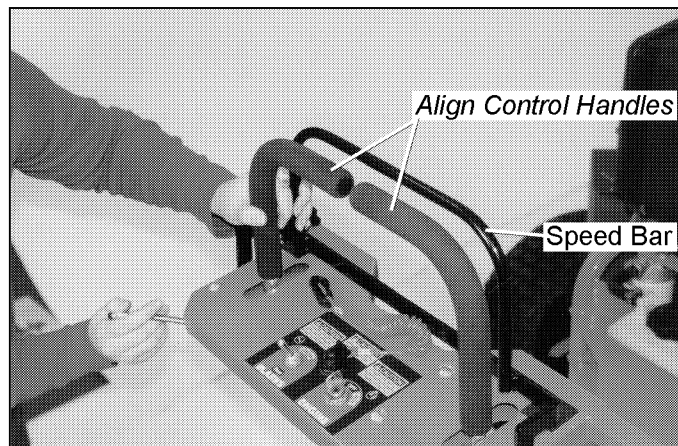

Figure 3
2. Align the control handles with each other (*Figure 3*).